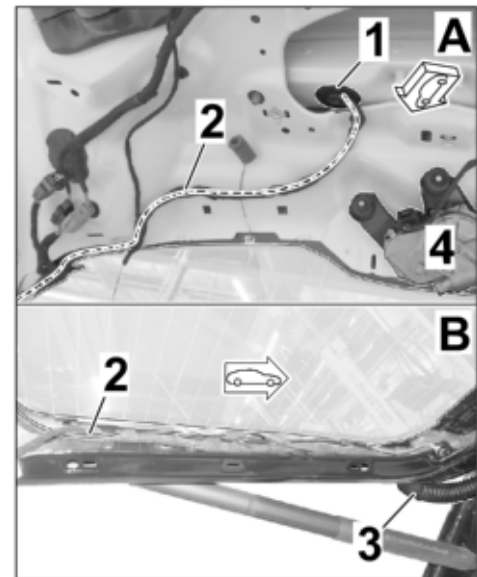

Figure 16 (similar)
- Route VT / WH 0.52 line (socket contact) along the existing line to the left side of the rear window frame. ⇒ *Figure 16 (similar) -A-*
- Route VT / WH 0.52 line further along the left rear window frame to the grommet on the (left) rear lid hinge. ⇒ *Figure 16 (similar) -B-*